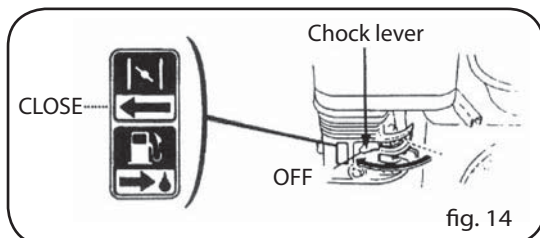

fig. 14
2. Push the choke lever to "CLOSE" (Fig. 14).